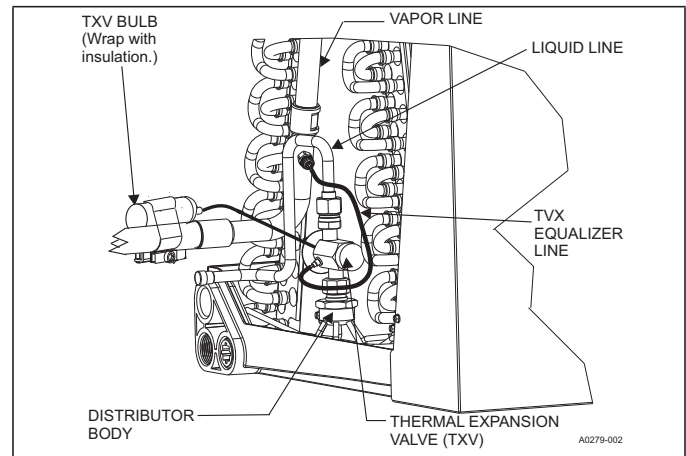

FIGURE 18: TXV Bulb and Equalizer line Installations
6. Install the TXV equalizer line onto the vapor line by hand tightening the 1/4" SAE coupling nut to the equalizer fitting, and apply an additional 1/3 turn to seal. See Figure 18.
8. Install the TXV bulb to the vapor line near the cabinet, using the bulb clamp(s) furnished with the TXV assembly. Ensure the bulb is making maximum contact. See Figures 18 & 19, and accomplish the following: